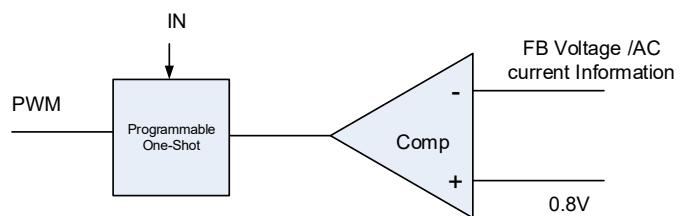

Figure 2. Simplified Control Schematic of AOZ2221QI
The simplified control schematic is shown in Figure 2. The high-side switch on-time is determined solely by an one-shot whose pulse width is inversely proportional to input voltage (IN). The one-shot is triggered when the internal 0.8V is higher than the combined information of FB voltage and the AC current information of inductor, which is processed and obtained through the sensed low-side MOSFET current once it turns-on. The added AC current information can help the stability of constant-on time control even with pure ceramic output capacitors, which have very low ESR. The AC current information has no DC offset, which does not cause offset with output load change, which is fundamentally different from other V2 constant-on time control schemes.